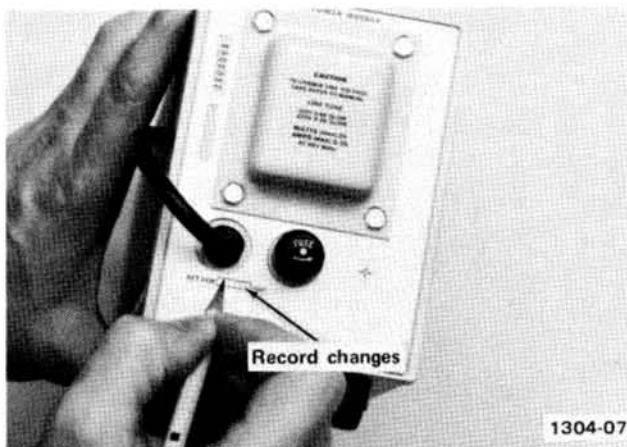

Fig. 3-6. Record line voltage setting.
7. After completing change record new setting on back panel (see Fig. 3-6).